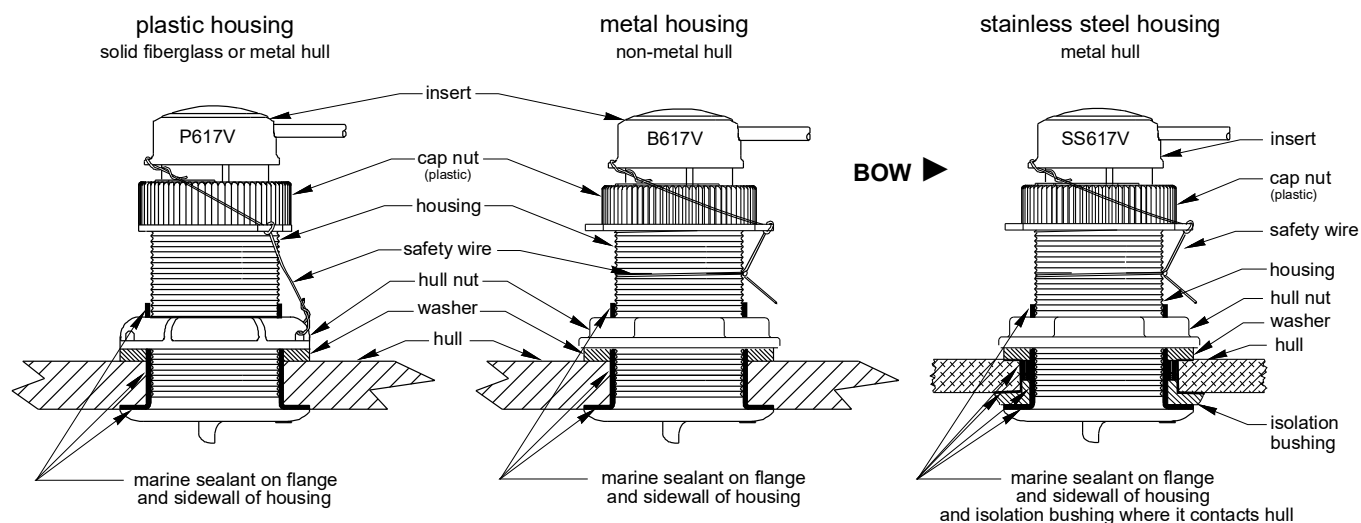

Figure 3. Bedding and installing
Apply a 2mm (1/16") thick layer of marine sealant around the flange of the housing that contacts the hull and up the sidewall of the housing (Figure 3). *The sealant must extend 6mm (1/4") higher than the combined thickness of the hull, the washer, and the hull nut.* This will ensure there is sealant in the threads to seal the hull and to hold the hull nut securely in place.
1. From outside the hull, push the housing into the mounting hole using a twisting motion to squeeze out excess sealant (Figure 3).
6. The insert must be fully inserted into the housing and the cap nut screwed on completely to make a watertight seal (Figure 3). **Slide the insert into the housing with the sensor arrow on the top pointing forward toward the bow.**
2. Remove the insert from the housing by removing the safety wire and unscrewing the cap nut (Figure 3). This will jack up the insert. Remove the insert with a slow pulling motion. Replace it by sliding the blanking plug into the housing.